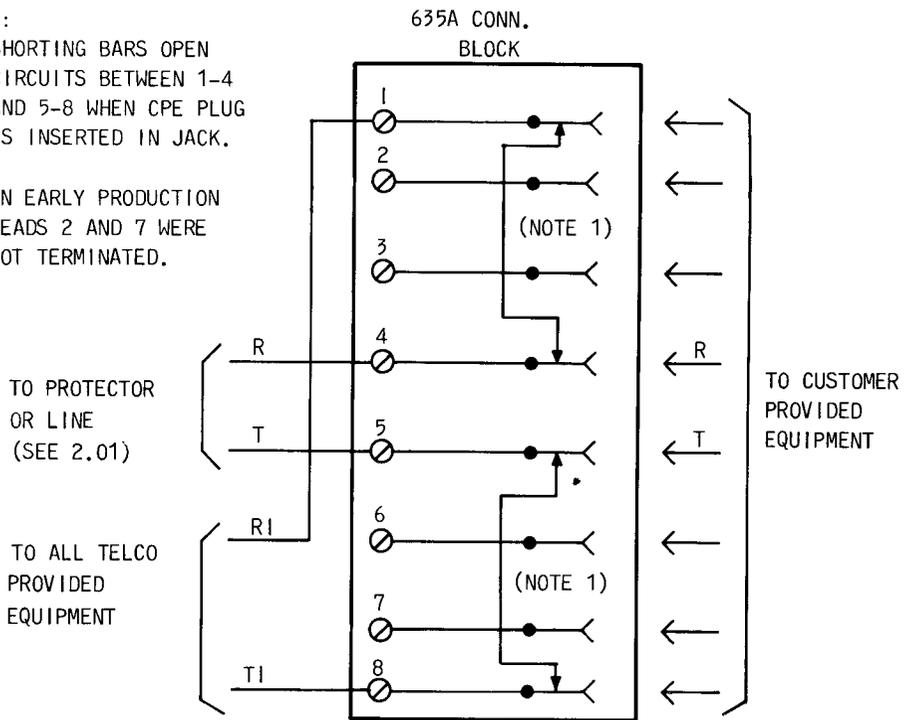

Fig. 1—Connections for USOC RJ31X
2.01 USOC RJ31X: This arrangement is wired so that when the CPE is plugged into the 635A connecting block, the CPE is placed in series with the tip and ring of the line (Fig. 1). When the CPE plug is removed, tip and ring are cut through to the station equipment. *The 635A*